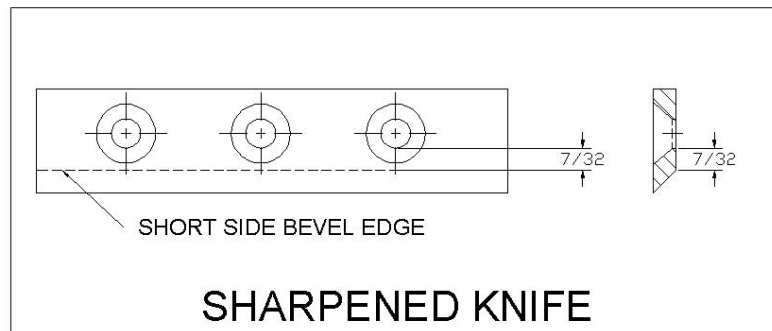

Figure 3
- Once this measurement is below $7/32$ " (see figure 3) the knife should be replaced.